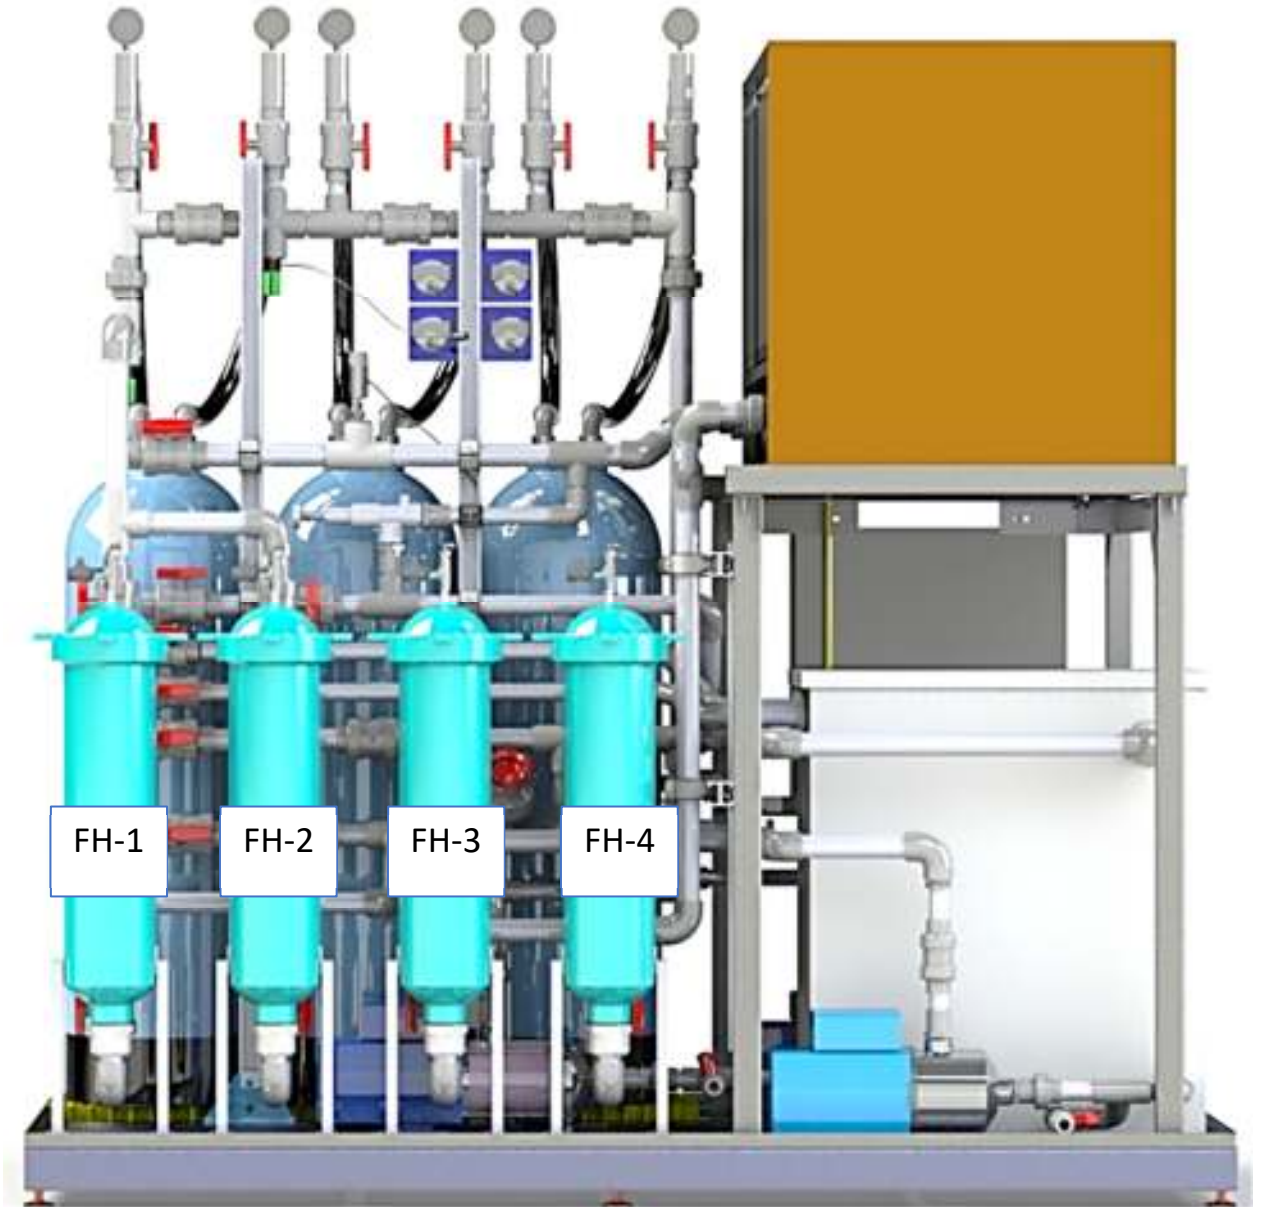

FIGURE 9
The filters are arranged in two (2) groups of two (2). (See figure 9)